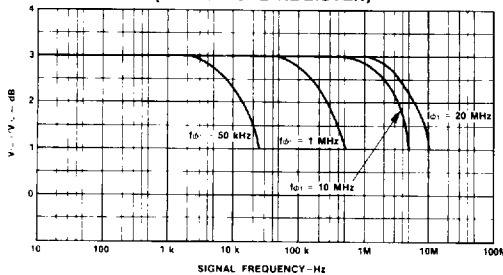

Fig. 1
7. Signal Bandwidth is typically 1/3 to 1/2 of the sampling rate. See Fig. 1.